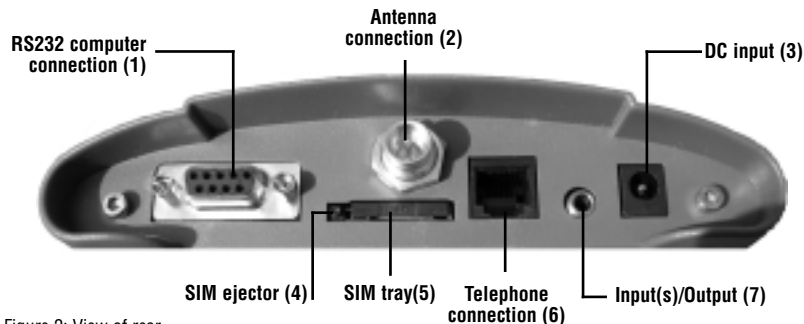

Figure 2: View of rear
1. Remove the SIM tray by pressing the ejector button using a suitable pointed object such as a ballpoint pen. After the tray has ejected about 2mm, pull it out completely with your finger and thumb. Note how the tray slides into guides. See Figures 2 and 4.